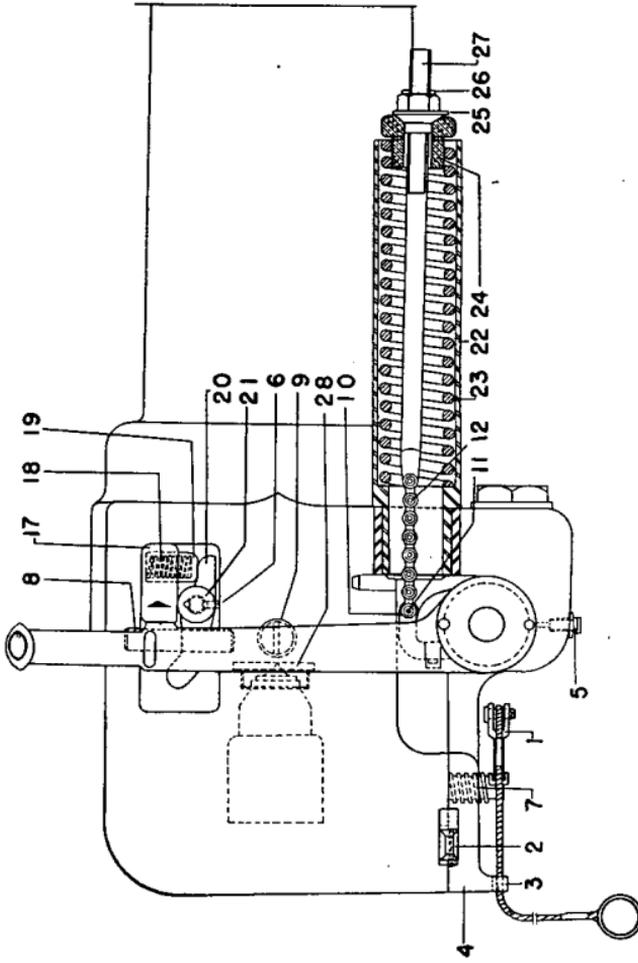
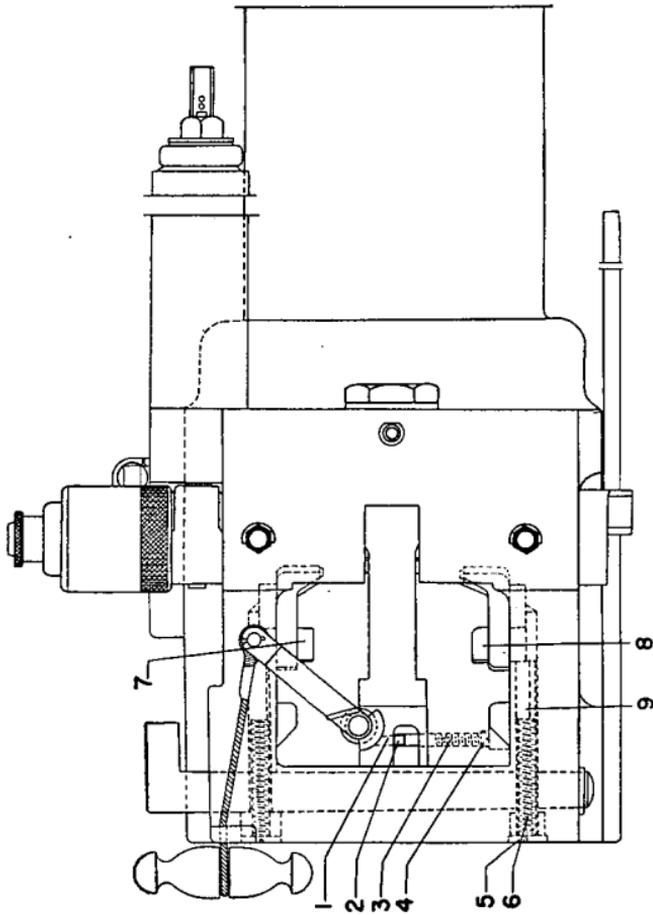
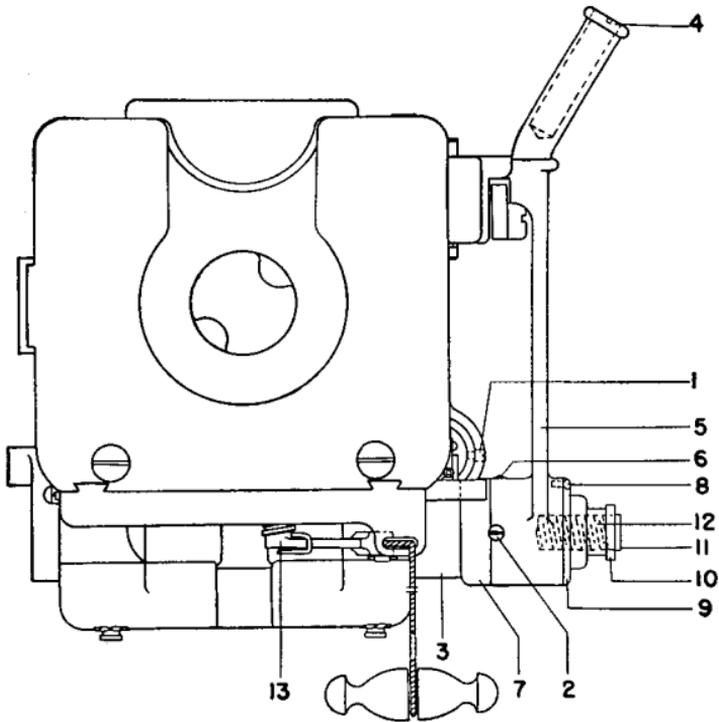
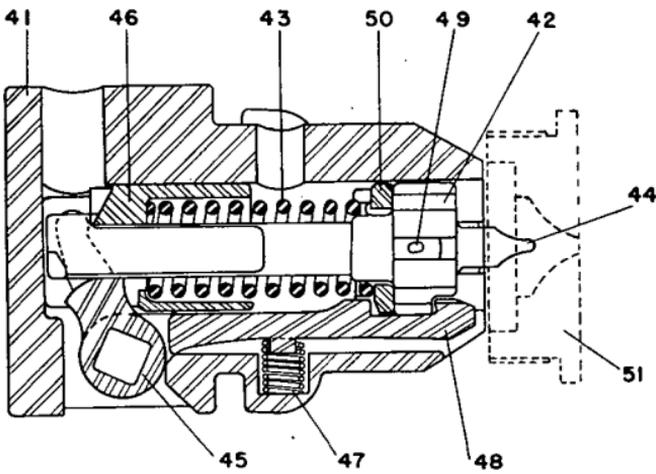

FIGURE 6.—Breech mechanism, 3-inch anti-aircraft gun M3, right side elevation.
FIGURE 7.—Breech mechanism, 3-inch anti-aircraft gun M3, bottom elevation.
FIGURE 8.—Breech mechanism, 3-inch anti-aircraft gun M3, rear elevation.
FIGURE 9.—Firing mechanism, 3-inch anti-aircraft gun M3, horizontal cross section.
■ 42. LATCH PLATE (fig. 6).—Unscrew the latch bolt set screw (6) and unscrew the latch bolt (21). This will release the latch (20) and spring (18) in spring cup (19) from the latch plate.
■ 43. BREECHBLOCK.—*a.* Remove one of the cap screws from the breech lamp bracket, loosen the other cap screw, and swing the lamp assembly clear of the breech recess. Unscrew plugs (5) (fig. 7) and remove extractor springs and plungers (6) and (9). Screw an eyebolt in the top of the breechblock for use in lifting the block. Open the breech and insert a pin or punch in the opening in the spring piston rod (27) (fig. 6) at the rear face of the closing spring cylinder (22), thereby releasing the tension of the spring on the breechblock. (See note below.) Screw in the clutch (11) (fig. 8) and close the breech. Remove the cotter pin which retains the chain terminal and unhook the chain from the operating shaft.
b. Draw the trigger shaft detent (1) (fig. 7) to the left by the handle (2) and draw out the trigger shaft (13) (fig. 8). Remove the firing case (41) (fig. 9) by turning until the
locating lugs are disengaged. Remove the split pin from the lock plate key (2) (fig. 6) and drive out the key. Remove the lock plate (4).
c. Rotate the operating shaft (3) (fig. 8) as in opening the breech. When the arm of the operating shaft turns out of the breechblock, draw the shaft to the rear out of the breech ring. It may be necessary to raise or lower the breechblock slightly while removing the shaft. Lower the breechblock sufficiently to remove the extractors.
d. Raise and remove the breechblock from the breech ring. Remove the detent spring (3) (fig. 7) by first removing screw (4) holding spring. The detent (1) may then be removed.
e. The bushing (28) (fig. 6), which is screwed very tightly in the front face of the breechblock, is assembled during manufacture and will not be removed by the using service personnel.
NOTE.—If it is desired to disassemble the closing spring cylinder mechanism, do not insert pin in the spring piston rod. With breech closed unscrew piston rod nut (25) (fig. 6) and withdraw spring piston (24). The closing spring may then be removed from the front and the spring piston rod from the rear.
■ 44. FIRING CASE.—*a.* With the firing case assembly withdrawn from the breechblock as explained in paragraph 43, insert a screw driver in small hole in the firing case and push the trigger fork (45) (fig. 9) from the case.
b. Remove the firing pin holder assembly (42) by pressing the sear (48) against the spring (47) with a finger at the front of the case, and by pushing the entire firing pin holder assembly from the rear with the fingers of the other hand.
c. Remove the sear (48) and the sear spring (47).
■ 45. FIRING PIN HOLDER ASSEMBLY.—*a.* Separate the holder (42) (fig. 9) from the sleeve (46) by pressing inward on the end of the firing pin holder, thus disengaging the irregularly formed end of the firing pin holder from the beveled surface on the inside of the sleeve. The sleeve should then slip off under the action of the spring.
c. Remove spring stop (50) and the cotter pin (49) from the holder (42), and unscrew the firing pin (44) from the firing pin holder (42).
■ 46. OPERATING HANDLE AND OPERATING SHAFT.—Unscrew the clutch lock (10) (fig. 8) to disengage the clutch from the shaft, and remove retaining ring lock screw (2). Unscrew the retaining ring (7) from the operating shaft (3) and remove the operating handle assembly. Unscrew retaining ring from the operating handle hub. Remove the clutch lock bearing lock screw (8) and unscrew the bearing from the handle hub. The method of disassembling the remaining parts needs no explanation.
■ 47. FIRING PIN HOLDER ASSEMBLY.—*a.* Insert the firing pin (44) (fig. 9) into the firing pin holder (42) until it fits tightly against the shoulder. Insert the cotter pin (49) through the holder and spread the ends to clear the firing case bore. Assemble spring stop (50) and firing spring (43) on the firing pin holder (42). Place the firing pin holder sleeve (46) over the firing spring and firing pin holder, and force it against the spring until the beveled surface on the
■ 48. FIRING CASE.—*a.* Turn the spring stop (50) (fig. 9) on the firing pin holder (42) until the flat edges of the fork are in a plane parallel to that of the flat surface at the forward edge of the firing pin holder. Failure to do this will make it almost impossible for the forward end of the sear (48) to engage the firing pin holder (42) as shown in the diagram of the assembled mechanism.
b. Insert the sear spring (47) into its seat inside the firing case (41). Insert the sear (48) into the case, placing the stud on the bottom of the sear into the sear spring (47). With the finger hold the rear end of the sear (48) up, and with the other hand insert the firing pin holder assembly about halfway into the case. Then press the rear end of the sear down and push the firing pin holder assembly fully into the case.
c. Insert the trigger fork (45) into the opening in the side of the case, with the rounded projections on the fork ends toward the front of the case, in which position the ends rest against the rear face of the firing pin holder sleeve (46). Push the trigger fork in as far as it will go, slapping it with the palm of the hand if necessary.
■ 49. BREECBLOCK.—*a.* Assemble the trigger shaft detent (1) (fig. 7) into the detent hole in the lower left-hand side of the block. As the detent passes into the slot in the bottom of the block, slip the detent handle (2) over the small diameter of the detent up to the shoulder. Place the detent spring (3) in the hole and insert screw (4).
■ 50. OPERATING HANDLE.—*a.* The grip position is made hollow to reduce its weight, the hole in the end being closed by screwing in the handle plug (4) (fig. 8). The oil cup (6) is pressed into the hub of the handle. These parts are assembled during manufacture and are not intended to be removed.
b. Screw the clutch lock (10) (fig. 8) through the clutch spring (12) into the clutch (11), and insert them into the handle, locating the key and keyway together. Now screw the bearing fully into the handle. Locate the nearest hole in the bearing directly over the tapped hole in the handle hub, and secure the bearing with the clutch lock bearing lock screw (8).
■ 51. OPERATING SHAFT.—Slide the operating handle assembly on the operating shaft, pushing it on until the projections on the shaft pass through the openings in the retaining ring (7). Retain the handle on the shaft by screwing the retaining ring fully against the shoulder, and insert the retaining ring lock screw (2). The lock screw should seat in the depressions in the ring and handle. Screw the clutch lock fully to the right to engage the clutch with the shaft.
b. Place the extractors (7) and (8) (fig. 7) in position in the breech recess, and press upward from the bottom so that they lie flat against the face of the breech.
f. With the breech open, insert the extractor plungers (9) (fig. 7) in the holes in the breech face, small end of the plunger to the rear, followed by the extractor plunger springs. Screw plugs (5) in position.
g. Attach the chain terminal to the operating shaft. (In case the closing spring assembly has been disassembled, place the closing springs (23) (fig. 6) in the closing spring cylinder (22). Insert the spring piston rod (27) through the spring and spring cylinder from the rear end and attach the chain terminal to the operating shaft. Place the spring piston (24) on the rod and screw the piston rod nut (25) on the rod until the end protrudes through the nut about $\frac{3}{4}$ inch.)
h. Close the breech and insert the trigger shaft (1) (fig. 6), first placing the spring (7) in position on the trigger shaft. Press the trigger shaft detent handle to the left to allow the trigger shaft to enter, and then allow the detent (1) (fig. 7) to move back into the annular groove in the shaft.
■ 53. LATCH PLATE (fig. 6).—Place the latch spring (18) into the spring cup (19), and hold the parts in position in latch plate (17). At the same time assemble the latch (20) in the plate by forcing the boss on the latch into its seat in the latch plate, holding it in position until the latch bolt (21) can be entered several threads. Screw the latch bolt (21) home and insert the latch bolt set screw (6).